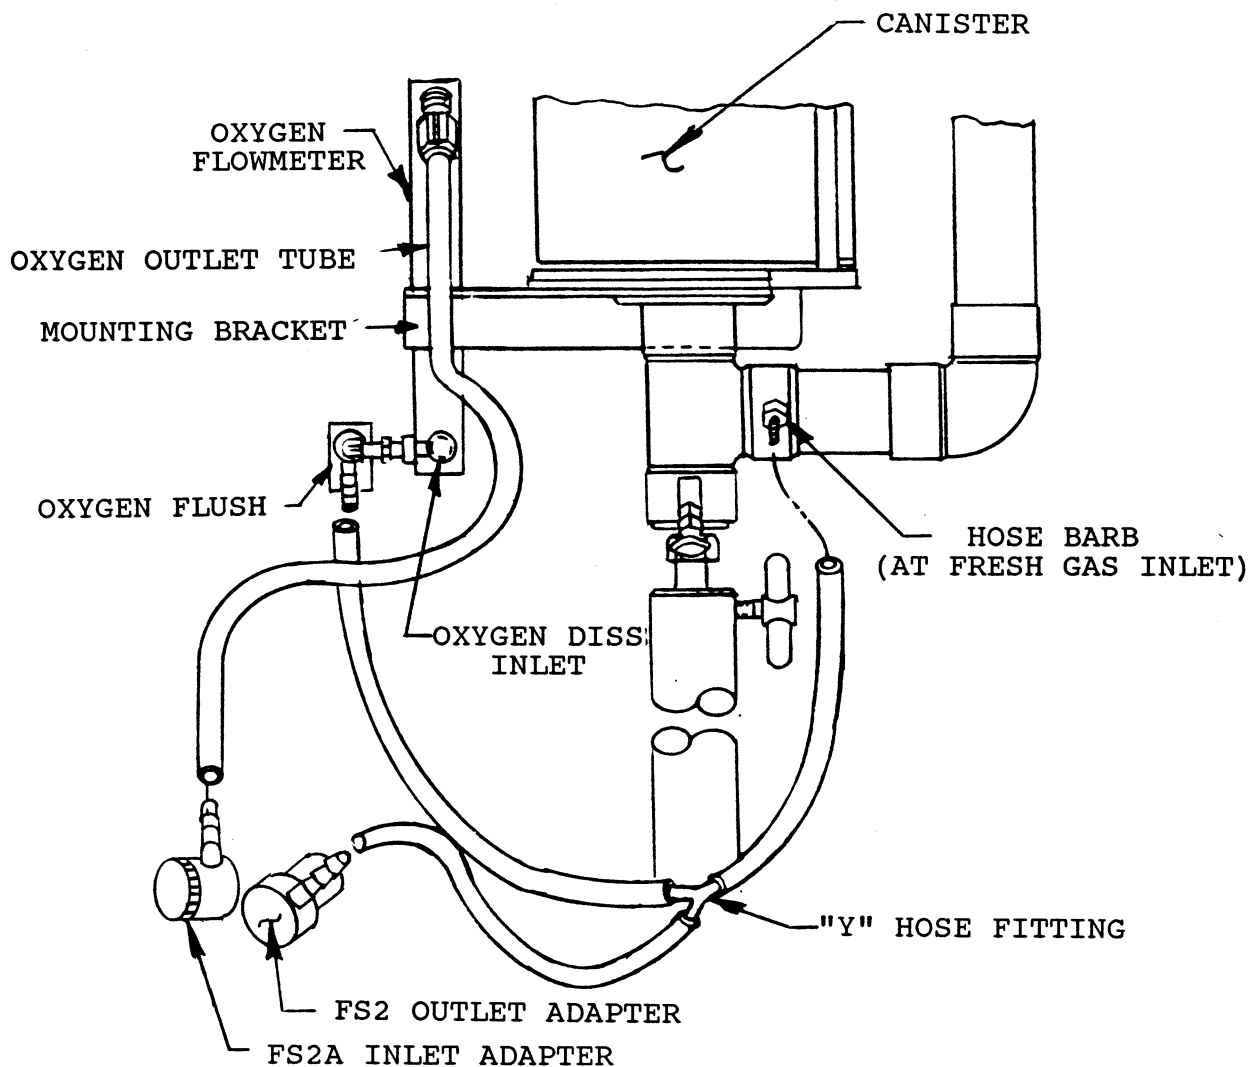

FIGURE 5 - HOSE CONNECTIONS (SINGLE FLOWMETER)
3. Connect the "Y" hose, single end, to the hose barb at the fresh-gas inlet in lower absorber structure (see Figure 5).